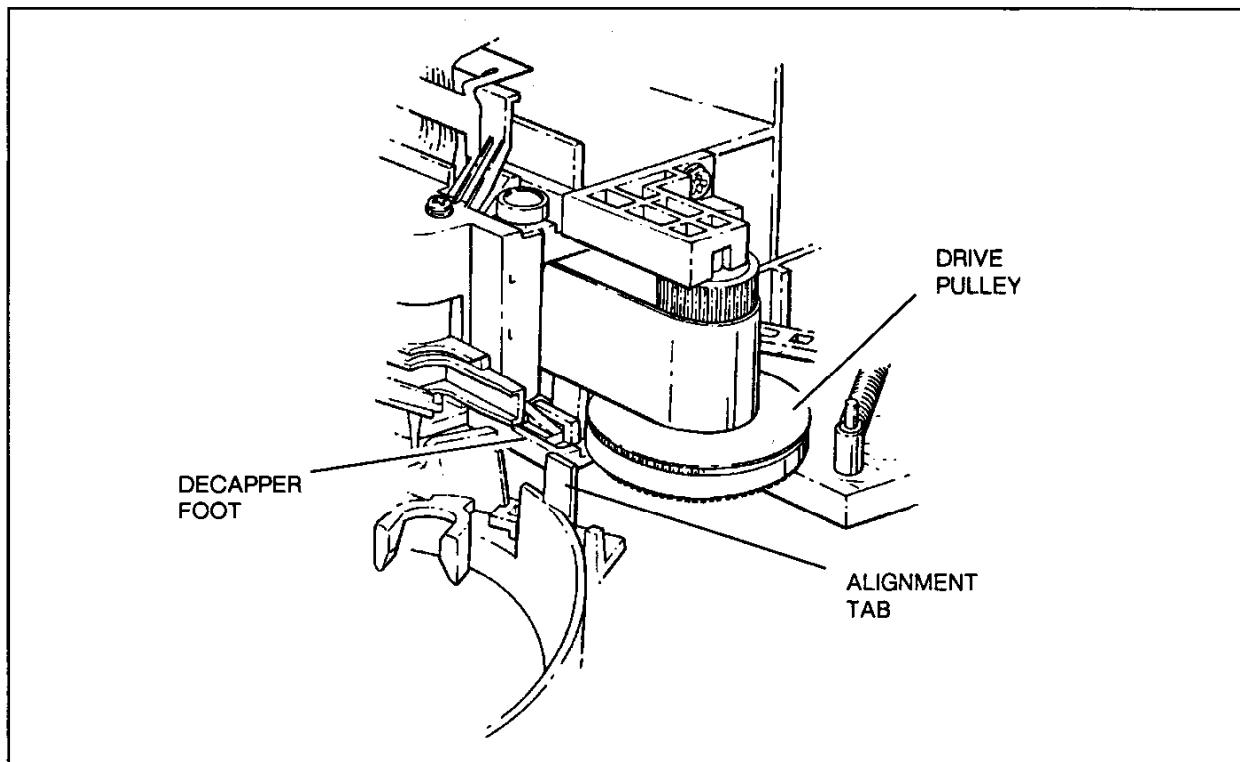

Figure 7-2. Carousel Base Adjustment
- Manually move the pen carriage to the right until the decapper foot touches the pen carriage drive pulley. See Figure 7-2.
- Slide the carousel base (side to side) to a position where the actuator foot first contacts the alignment tab on the carousel base. See Figure 7-2.